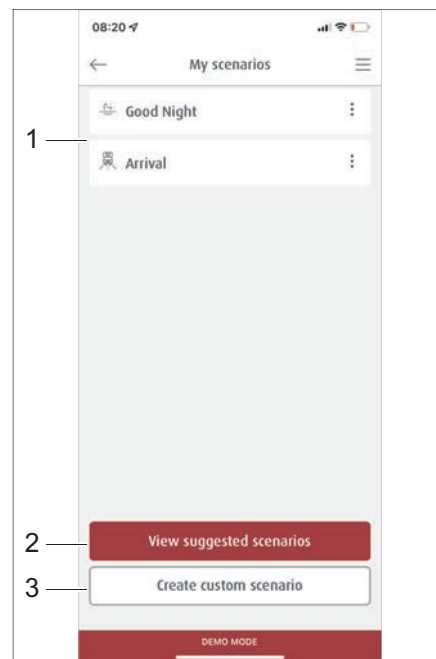

Fig. 278 Managing scenarios
In the *Scenarios*, all stored scenarios can be found (Fig. 278,1). Preset scenarios (Fig. 278,2) can be viewed or new ones created (Fig. 278,3).
- In the *Scenarios* menu, click on the *View Preset Scenarios* (Fig. 278,2) button. A list of preset scenarios will appear.
The buttons for the selected scenarios will be marked in red and transferred to the list in the *My Scenarios* menu (Fig. 278,1).